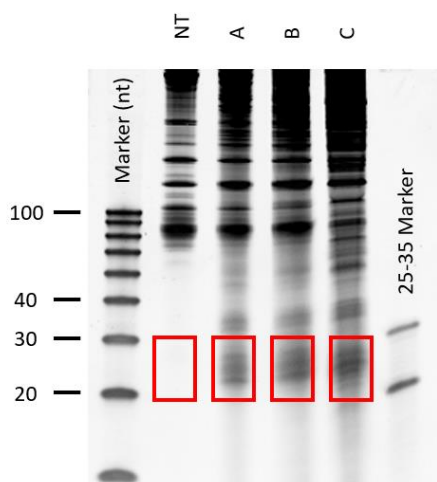

Fig.3 Example of RNA extracted after nuclease titration run on 15% TBE-Urea gel. In the red square the sizes between 25-35 nt.
As depicted in the figure above, not digested sample does not present the typical enrichment of fragments at 25-35 nt (red square in Fig.3). Under-digested sample (A) does not display a high enrichment of RPFs, while the over-digested sample (C) shows a smear of signal on the gel. In this example, the quantity of Nux used in sample B (AU x 5) needs to be utilized for all the reactions.